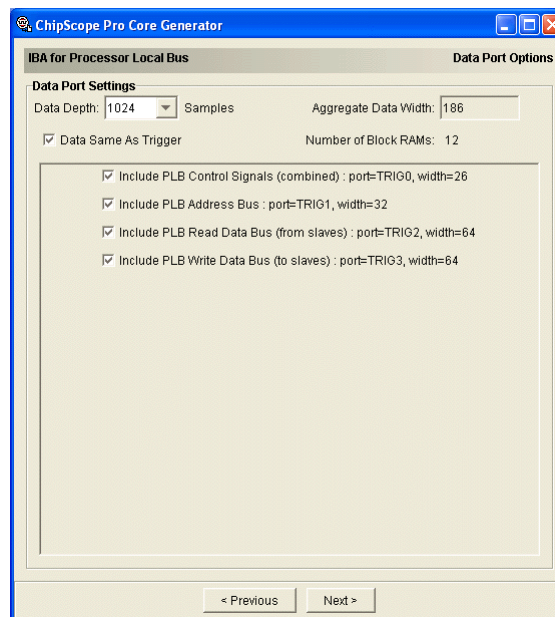

Figure 2-30: IBA/PLB Core Data Same As Trigger Options
- **Data Same as Trigger (Figure 2-30, page 2-54)**